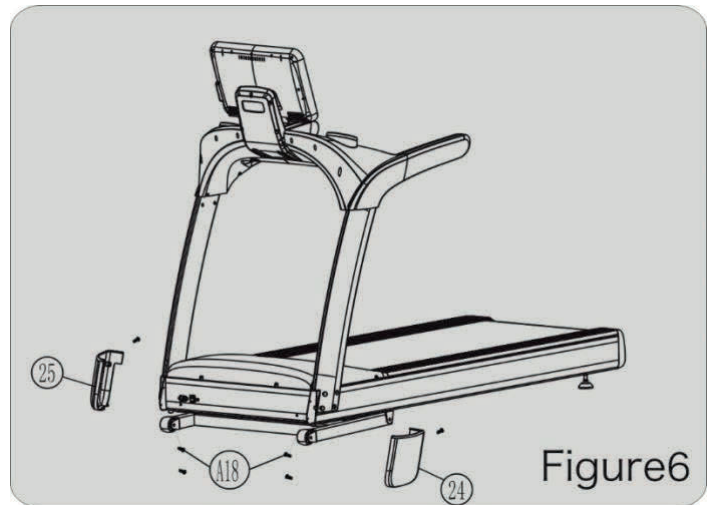

Figure6
6.3 Install right cover (25) to the right side of motor upper cover (23) by three pcs of cross pan head tapping screw ST4.2*12 (A18), then tighten. (see Figure 6)